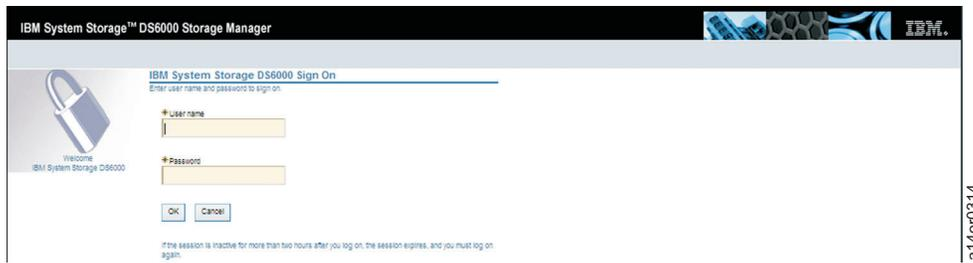

Figure 244. DS6000 GUI Login Username and Password Screen
2. From the Main Menu, select **Browser Functions > DS6000 Functions > Launch GUI**. You see the browser window in Figure 244 on page 196.